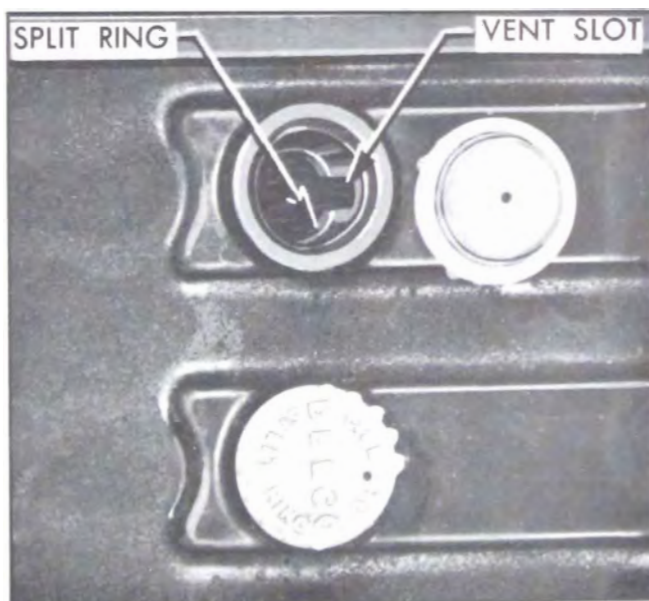

Figure 1-10—Battery Filler Well
**WARNING:** Do not overfill. Clean top of battery; if wet with acid, neutralize with soda and wash clean. See Figure 1-10.